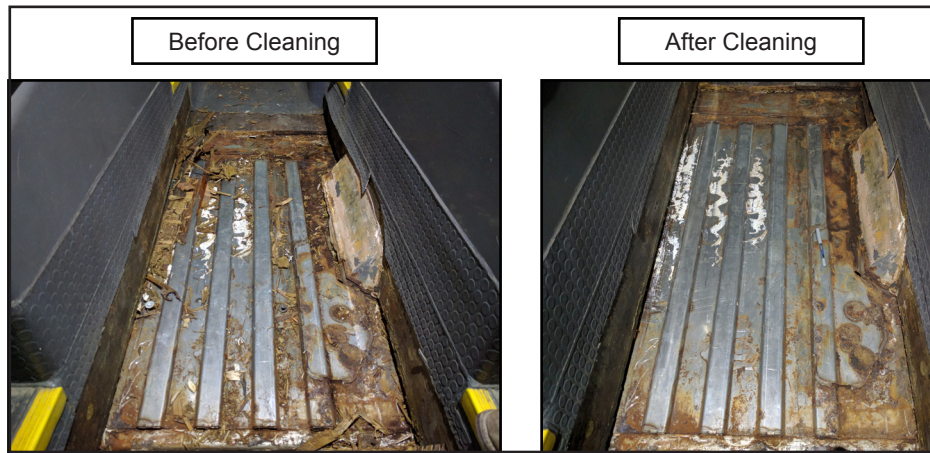

Figure 7 - Typical View of Floor structure Before and After Cleaning
- 2.24. Wipe off the ZEP from the structure with a clean, dry, white cloth, such as Wypall X60. Do not allow the ZEP 50 to dry on the structure surface (See Figure 7).